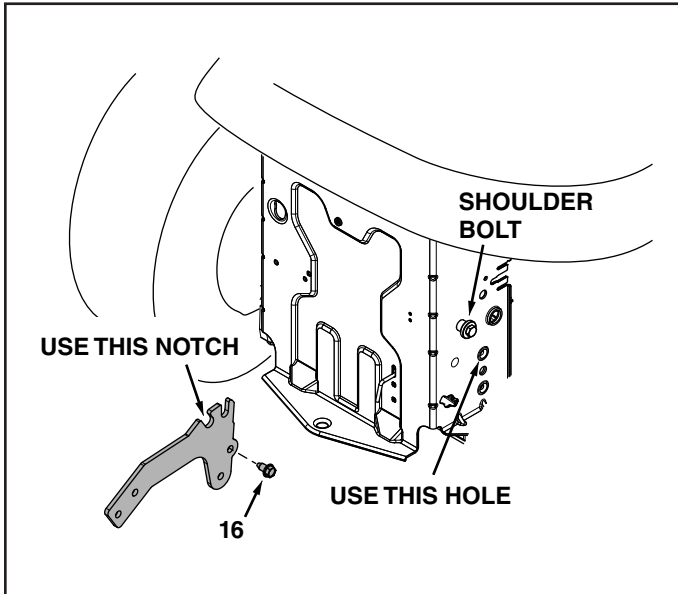

FIGURE 8
1. Place the second notch in top of weight bracket arm (2a) onto shoulder bolt in side of drawbar. Secure bottom of arm to drawbar using a 3/8-16 x 3/4" self threading hex bolt (16). Repeat on other side. See figure 8.